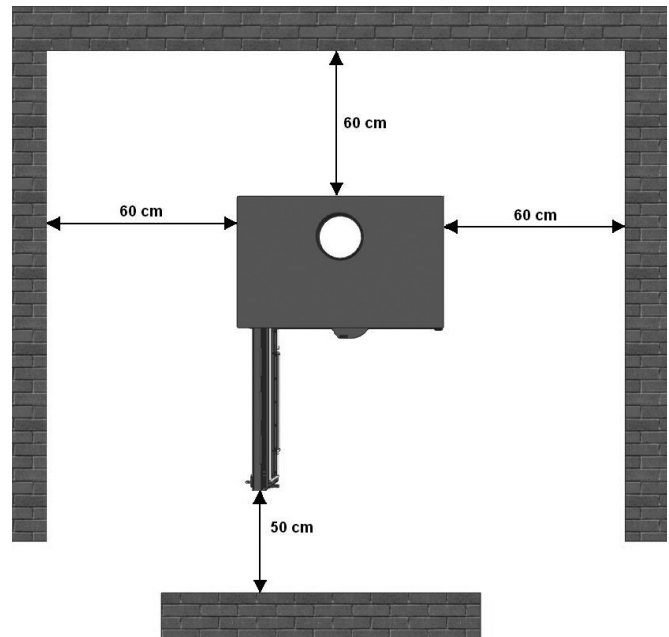

FIG. 6 - SAFETY DISTANCES
- When installing the oven, observe the necessary safety distances for the oven and chimney from combustible surfaces (wooden or papered walls, wooden floors...). Safety distances must be respected when the lining on walls or nearby areas may be damaged or deformed by temperature (varnish, paint, PVC...). Fig. 6